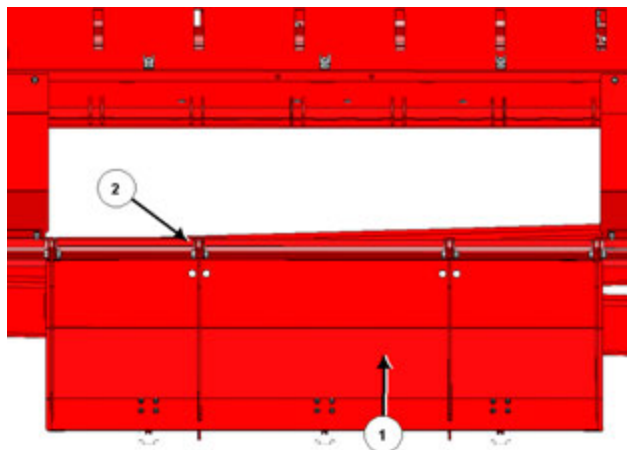

Figure 37: Install flail drum door
2. Supporting the flail drum door (1), line up the 4 hinges with the lower sheet (2) and fasten using $\frac{1}{2}$ " x 1- $\frac{1}{2}$ " hex bolts and $\frac{1}{2}$ " flange lock nuts; see Figure 37.